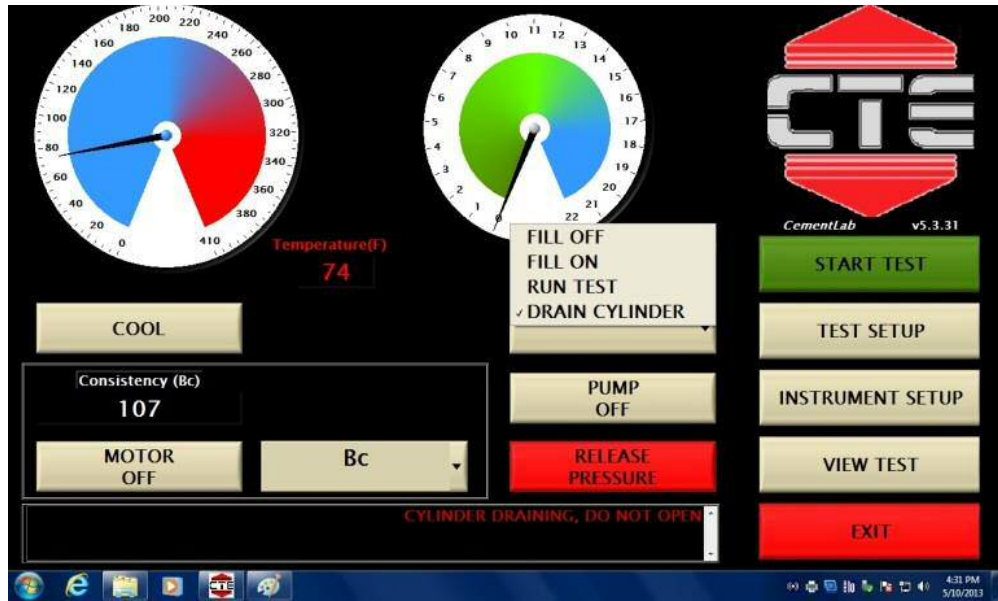

Figure 3
- The fill button is located on the main screen. This button operates several functions in one. As shown in figure 3, the fill button shows *fill off, fill on, run test, and drain cylinder*. The fill off position neither allows oil or air into the cylinder. The fill on position allows oil to flow from the reservoir into the cylinder. The run test position performs the same function as fill on but gives the user the understanding that the cylinder is ready for pump pressure application. The drain cylinder position will open the pressure release valve thereby releasing any high pressure and start the flow of oil back to the reservoir.